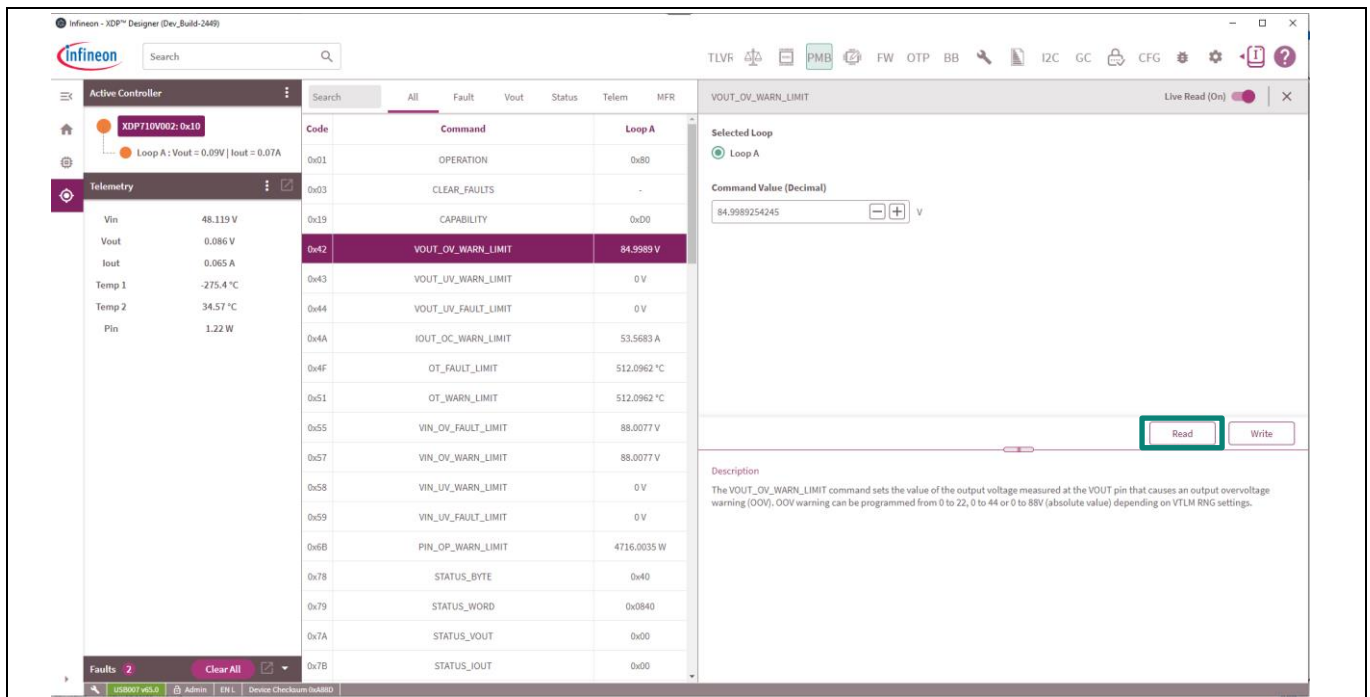

Figure 25 Reading VOUT_OV_WARN_LIMIT
- Most of the registers are updated automatically, but to read the latest values click **Read** to read the corresponding register values, as shown in Figure 25.